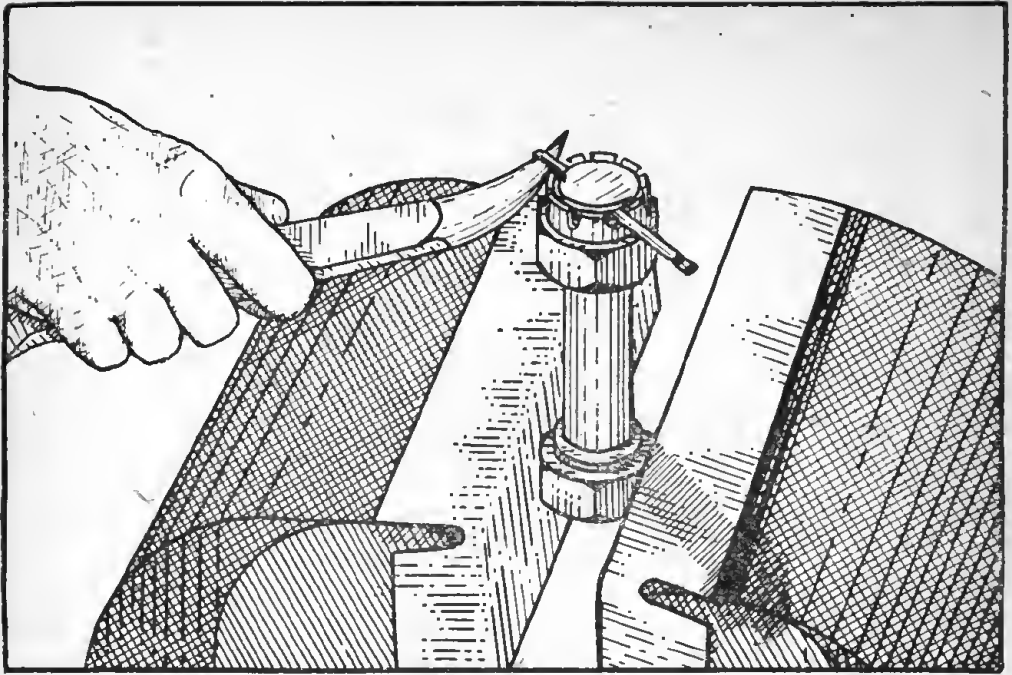

Figure 51. Cotter-pin extractor.
e. COTTER-PIN EXTRACTOR. A cotter-pin extractor is simply a bar of steel with a curved taper on one end and a curved wedge on the other. (See fig. 51.) By inserting the point of the taper into the eye of the cotter pin with the outside of the curve bearing on some supporting material, the cotter pin can be removed by prying it out. Care should be taken to avoid damaging adjacent threads. The curved chisel end may be used to bend or straighten the ends of a cotter pin.